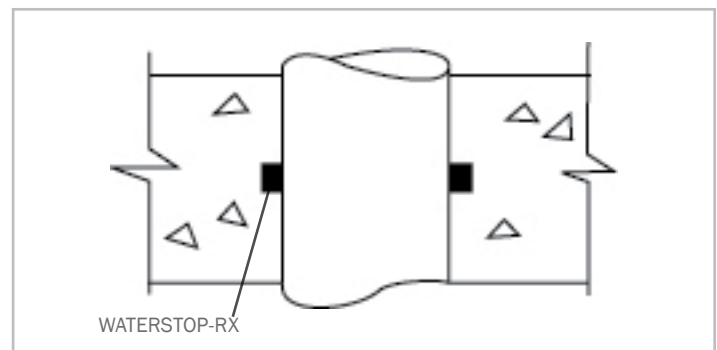

Figure 4.2 – Single pipe penetration
**Single Pipe Penetration:** Install WATERSTOP-RX around outer diameter of the pipe (see Figure 4.2). WATERSTOP-RX 102 shall be installed around all polyvinyl chloride (PVC) pipes.